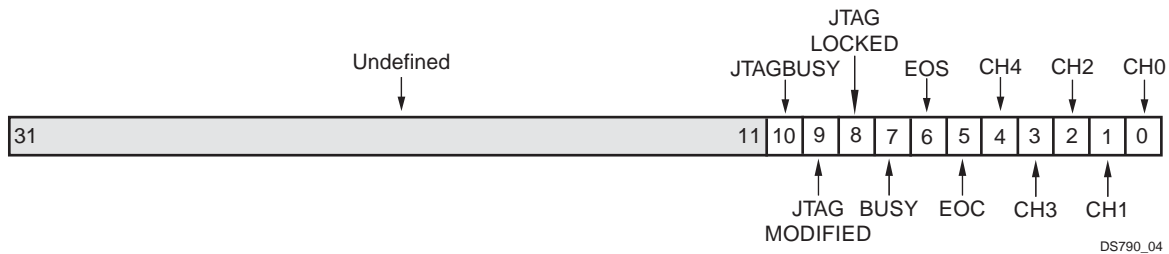

Figure 4: Status Register
The Status Register (SR) contains the AXI Sysmon ADC core channel status, EOC, EOS, and JTAG access signals. This register is read only. Any attempt to write the bits of the register will not change the bits. The Status Register bit definitions are shown in Figure 4 and explained in Table 6.